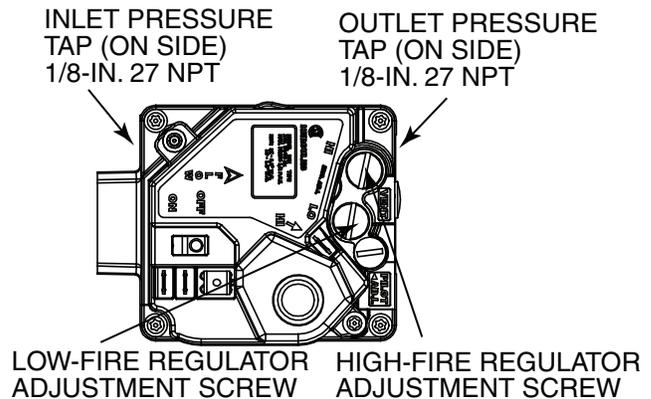

Fig. 78 — Two-Stage Gas Valve
6. Remove screw cap covering regulator adjustment high-fire screw (see Fig. 78).